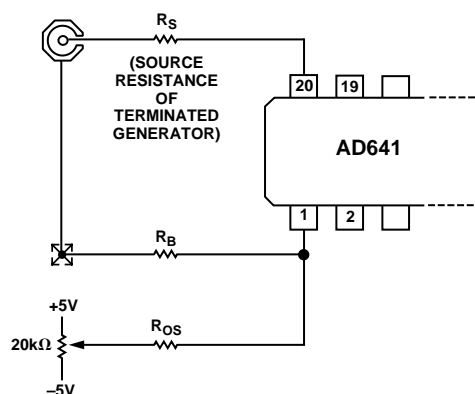

Figure 25. Optional Input Offset Voltage Nulling Circuit; See Text for Component Values
In most applications there will be no need to use any offset adjustment. However, a general offset trimming circuit is shown in Figure 25. R_S is the source resistance of the signal. *Note: 50 Ω rf sources may include a blocking capacitor and have no dc path to ground, or may be transformer coupled and have a near zero resistance to ground.* Determine whether the source resistance is zero, 25 Ω or 50 Ω (with the generator terminated in 50 Ω) to find the correct value of bias compensating resistor, R_B , which should optimally be equal to R_S , unless $R_S = 0$, in which case use $R_B = 5$ Ω . The value of R_{OS} should be set to 20,000 R_B to provide a ± 250 μV trim range. To null the offset, set the source voltage to zero and use a DVM to observe the logarithmic output voltage. Recall that the LOG OUT current of the AD641 exhibits an *absolute value response* to the input voltage, so the offset potentiometer is adjusted to the point where the logarithmic output "turns around" (reaches a local maximum or minimum).
R4 is identical to R2, and in shunt with R3 (270 Ω thin film) forms a 27 Ω resistor with the same TC as the output resistance of the attenuator. By connecting Pin 1 to ATN LOW (Pin 2) this resistance minimizes the offset caused by bias currents. The offset nulling scheme shown in Figure 25 may still be used, with the external resistor R_B omitted and $R_{OS} = 500\text{ k}\Omega$. Offset stability is improved because the compensating voltage introduced at Pin 20 is now PTAT. Drifts of under 1 $\mu\text{V}/^\circ\text{C}$ (referred to Pins 1 and 20) can be maintained using the attenuator.
Cascaded AD641s can be used in dc applications, but input offset voltage will limit the dynamic range. The dc intercept is 6 μ V. *The offset should not be confused with the intercept*, which is found by *extrapolating* the transfer function from its central “log linear” region. This can be understood by referring to Equation (1) and noting that an input offset is simply additive to the value of V_{IN} in the numerator of the logarithmic argument; it does not affect the denominator (or intercept) V_X . In dc coupled applications of wide dynamic range, special precautions must be taken to null the input offset and minimize drift due to input bias offset. It is recommended that the input attenuator be used, providing a practical input range of -74 dBV ($\pm 200 \mu$ V dc) to +6 dBV (± 2 V dc) when nulled using the adjustment circuit shown in Figure 25.